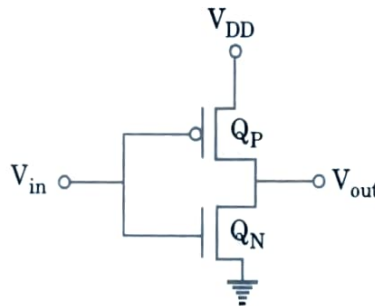

Fig. 1.13.1 CMOS inverter circuit.
1. Fig. 1.13.1 shows the CMOS inverter. In the CMOS inverter, the PMOS and NMOS devices Q_P and Q_N are driven simultaneously by an input V_{in} .